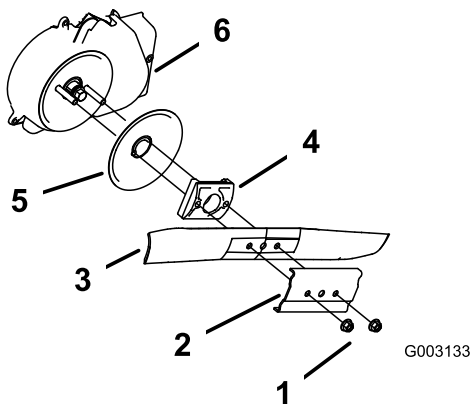

Figure 41
- Remove the 2 blade nuts and the stiffener (Figure 41).
- Remove the blade (Figure 41).
- Remove the blade driver and disk (Figure 41).
- Remove the blade brake clutch shield (Figure 41).
- Install the blade and the stiffener that you previously removed (Figure 41).